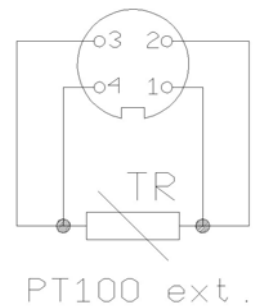

Fig. 5
- The external PT100 must be connected to the socket (15) as in fig.5.
- Connect the ext. PT100 terminal to the plug provided with the bath (respect the polarity of fig.5)
- Insert the plug to the socket (13).
- Follow the instruction and the flow chart of chapter 10.1 up to PT100 EXT; the temperature will be indicated on the display (4).
N.B: The thermostatic bath works with the control probe (18) in the bath. It's possible to calibrate PT100 probe with the thermostatic bath and use the external probe as a primary standard (follow the instruction 6.3 and the general recommendation par.3)